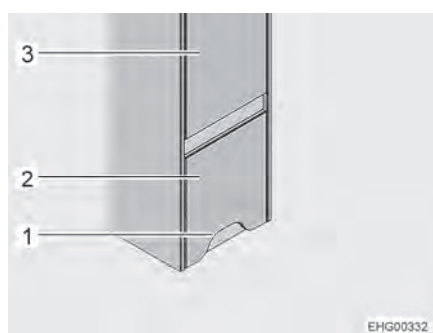
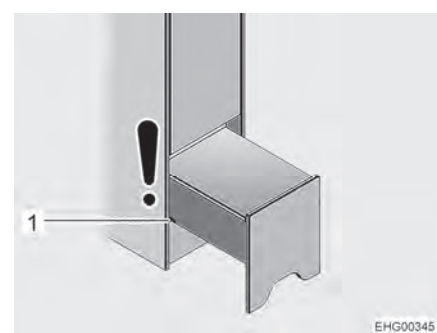

Fig. 79 Access assistance (closed)
Fig. 80 Access assistance (night position)
**Position** The access assistance has been installed on the right side of vehicle, underneath the wardrobe (Fig. 79,3) in front of the rear bed.
▷ The toilet compartment door is opposite to the access assistance. As long as the access assistance has only been pulled out partially ("night position", see Fig. 80), it is still possible to open the toilet door. If the access assistance has been entirely pulled out to obtain access to the storage compartment, it is no longer possible to fully open the toilet compartment door.
■ Grab the access assistance (Fig. 79,2) by the cut-out (Fig. 79,1), lift it slightly and pull it out up to the first groove (Fig. 80,1) (night position).